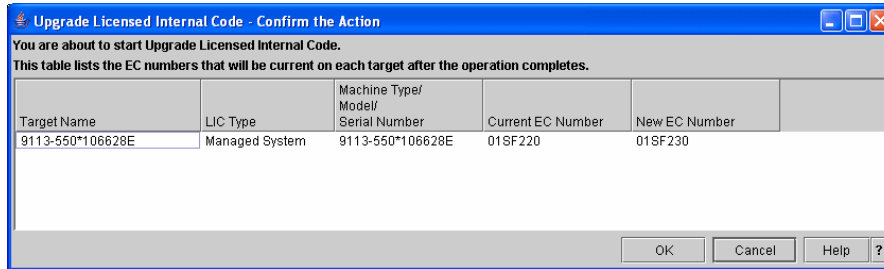

Figure 40 Upgrade information
5. You are provided with a new window which displays the current and the target release of the firmware (see Figure 40). Click **OK** to start the upgrade process.